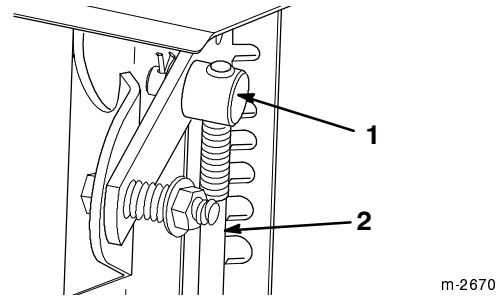

Figure 27
- Adjust the forward speed by rotating the speed selector rod in the trunnion (Fig. 27).